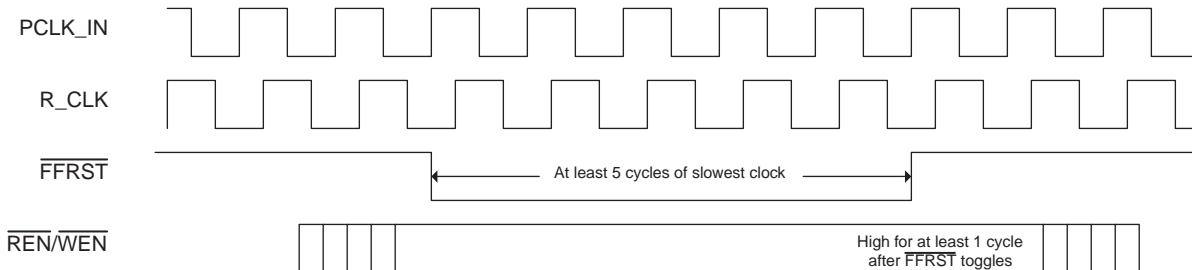

Fig. 16 Recommended External FIFO Reset Process
In external FIFO control mode, the internal FIFO address pointers are reset to zero (0) using FFRST. A recommended external reset process is shown in Figure 16.